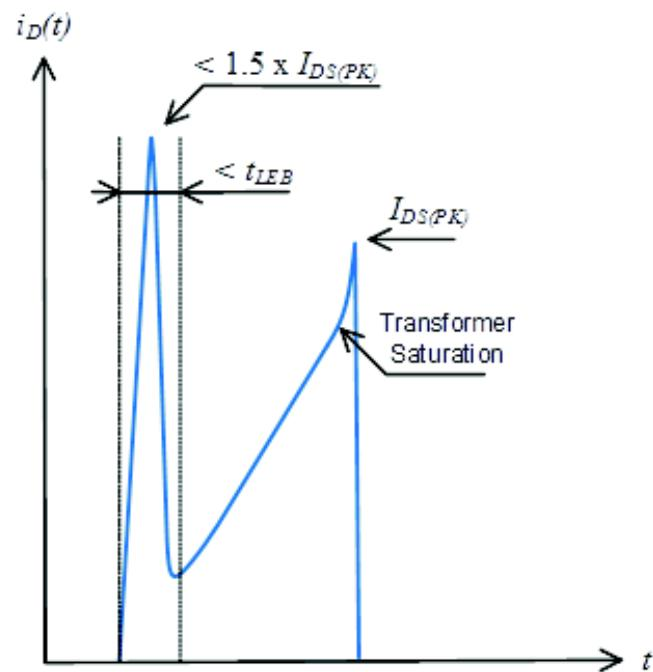

Figure 3. Spike Limits
2. Maximum drain current  $I_{DS(PK)}$  is obtained when the transformer saturates. It should not be mixed with short pulses that can be seen at turn on. Figure 3 below provides spike limits the device can tolerate.